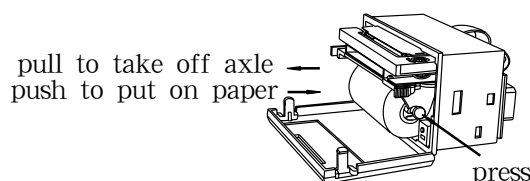

Fig 2-14 Take off paper axle and put on paper roll
- Take off the paper axle: Hold two ends of elastic axle of paper roll tightly to take off the paper axle from the printer. See Fig 2-14